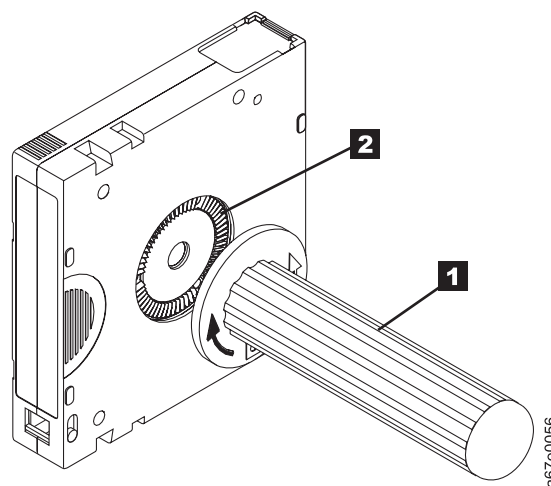

Figure 53. Rewinding the tape into the cartridge
5. To rewind the tape, insert the cartridge manual rewind tool (**1** in Figure 53) into the cartridge's hub (**2**) and turn it clockwise until the tape becomes taut.